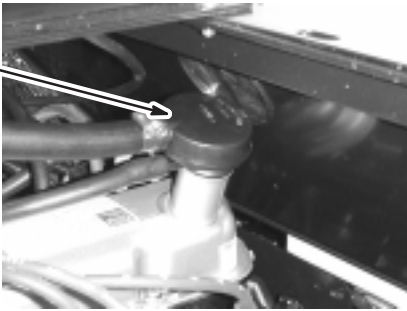

Figure 31
13. Remove the oil filler cap and slowly pour approximately 80% of the specified amount of oil into the oil filler tube (Fig. 31).